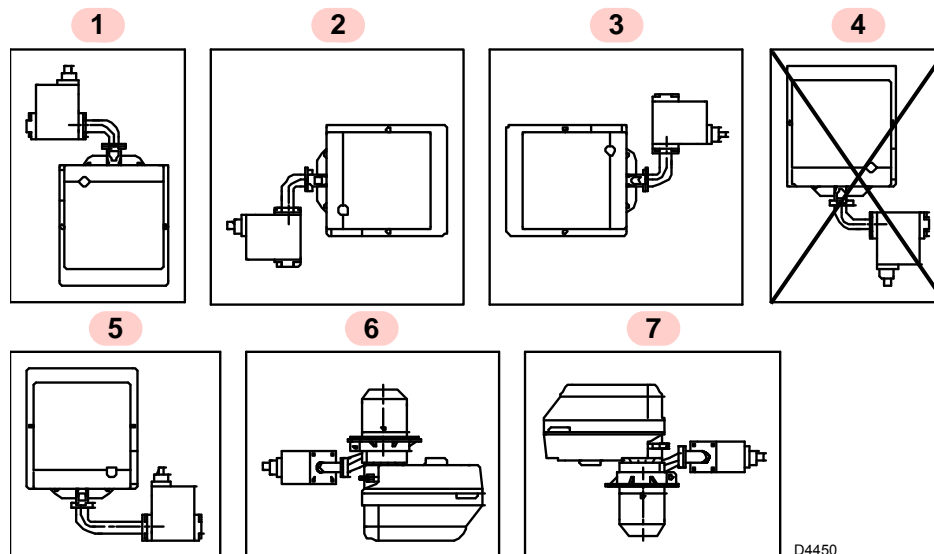

Fig. 7
- The burner is set up to operate only in positions 1, 2, 3, 5, 6 and 7 (Fig. 7).